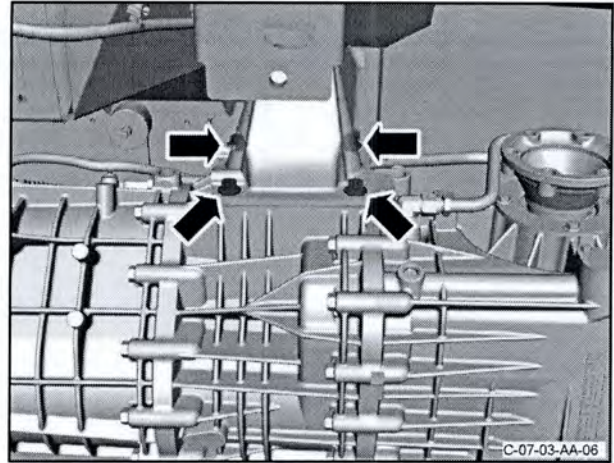

Figure 21
33. Remove and discard the four bolts that attach the left side mount bracket to the transaxle. Remove the mount bracket with the hydramount attached (refer to Figure 21).